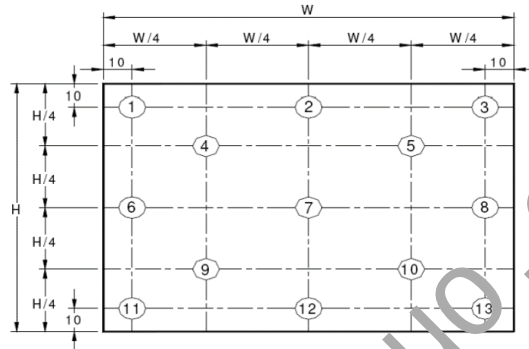

Fig 9-5
Note (7) The Luminance of White is the average of 5 points measurements (4,5,7,9,10) showing in the Fig.9-5.